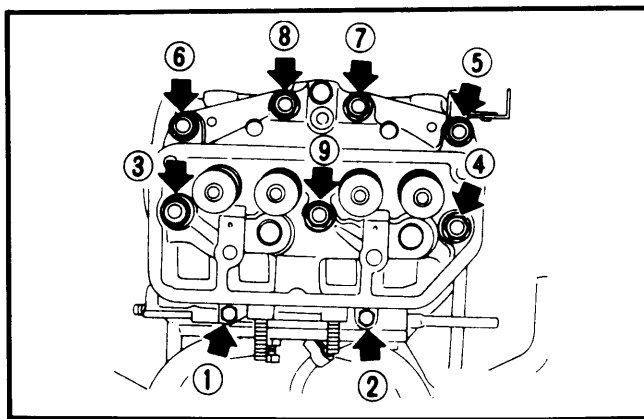

Fig. 1 Cylinder Head Nut Loosening Sequence
5) Remove spark plugs and valve cover. Remove rocker assembly and push rods. Remove cylinder head bolts in sequence. See Fig. 1. Remove cylinder head and gasket. Use Allen wrench and remove crankcase plug.